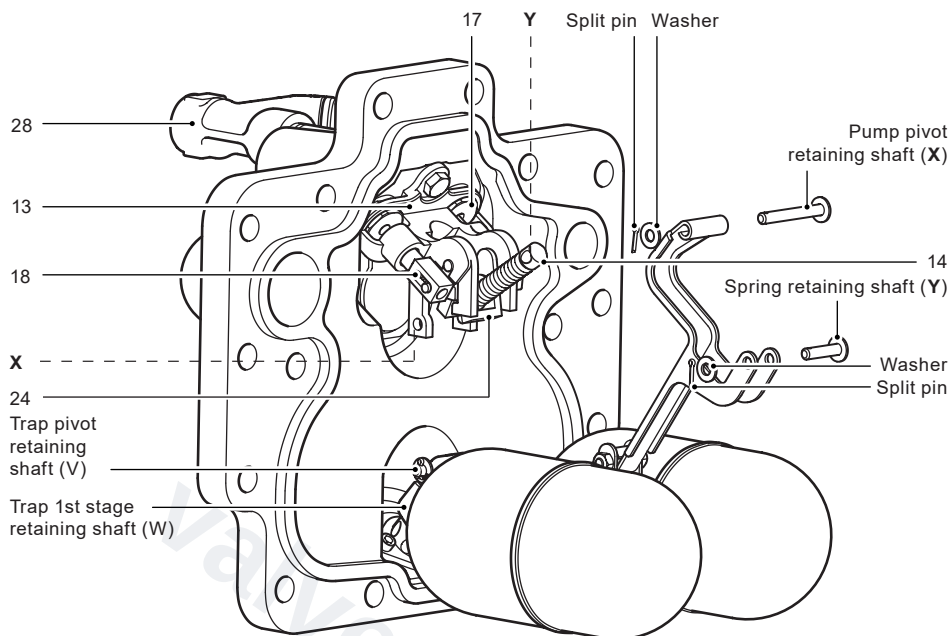
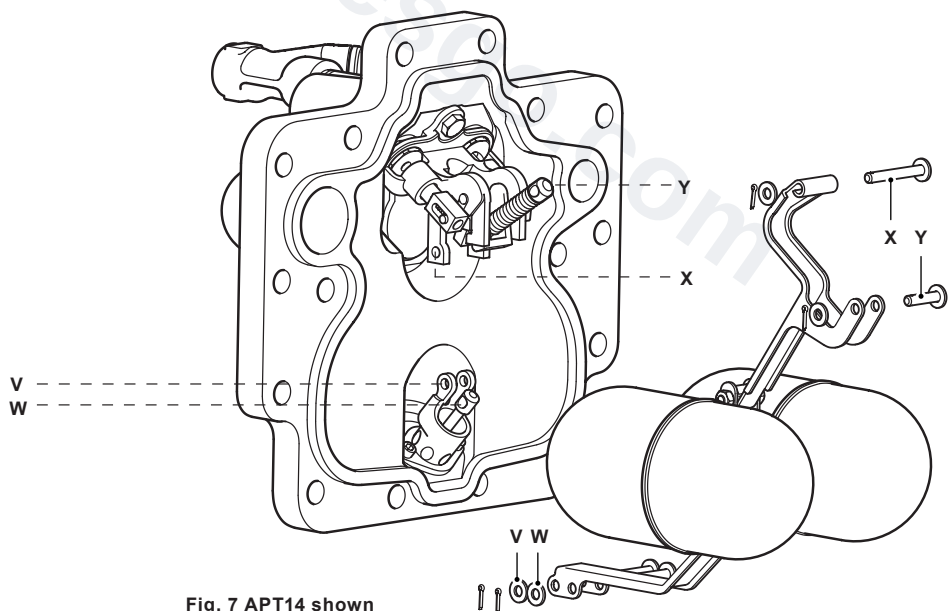

Fig. 6 APT14 shown
Fig. 7 APT14 shown
3. Remove a split pin and washer from one side of the spring retaining shaft (Y) (See Figure 6).
4. Remove a split pin and washer from one side of pump pivot retaining shaft (X).
5. Carefully slide the shafts out from their respective positions observing the orientation of the spring and actuator arm (item 14, 24) within the pump bracket (item 13) as these will need to be refitted later.
6. Remove a split pin and washer from one side of the trap 1st stage valve retaining shaft (W).
7. Remove a split pin and washer from one side of the trap pivot retaining shaft (V).
10. It is easier to fit the replacement shafts in the following sequence:- (See Figure 7).
14. Carefully reconnect the motive steam supply and the exhaust lines to the connections marked (S) and (E). The APT14, APT14HC or APT14SHC is now ready to recommission.
15. Make sure that the Spirax Sarco motive supply strainer (with 100 mesh screen) is reinstated to the motive supply connection (item 28, Figure 6).